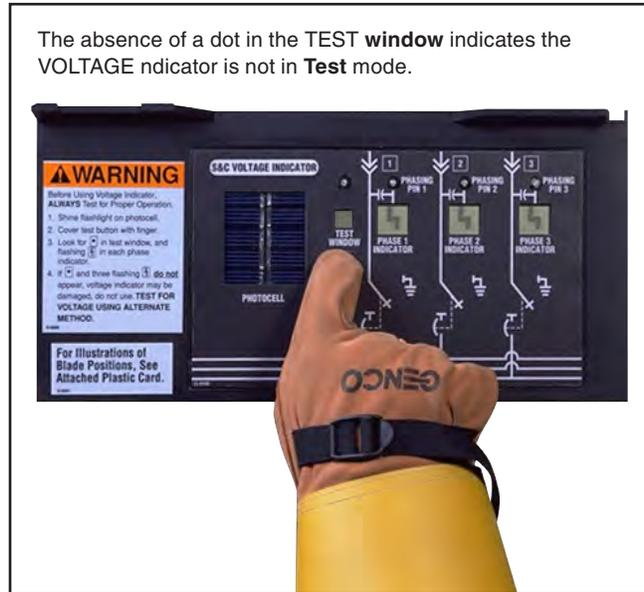

Figure 48. Make sure there is sufficient light to run the test circuitry and the TEST button is completely covered by gloved finger.
- (c) If the dot ● or any of the flashing lightning bolts ⚡ does not appear, make sure the TEST button is completely covered with a gloved finger so no light shines on the photocell, and there is adequate light (provided either by a flashlight or the sun) to power the test circuit. See Figure 48. If the dot ● or any of the flashing lightning bolts ⚡ still do not appear, the VOLTAGE indicator may be damaged. Test for voltage using an alternate method. See Figure 49.